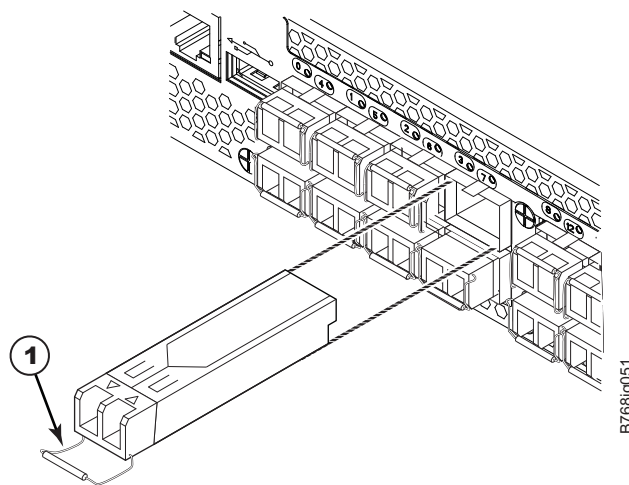

Figure 41. Replacing an optical transceiver
2. Pull the bail (wire handle) **1** away from its pivot point and out, sliding the transceiver out of the port (Figure 41).